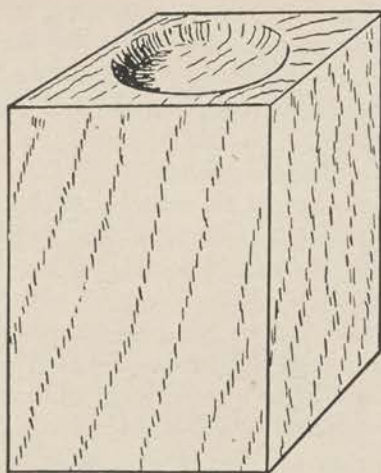

Figure 96.
b. To make the mold, take a piece of soft wood 3 or 4 inches long and about 2 inches square. A piece of 2 by 4 will do. Using the round end of a ball pein hammer, beat a circular depression in one end about $\frac{3}{16}$ inch deep (fig. 96).